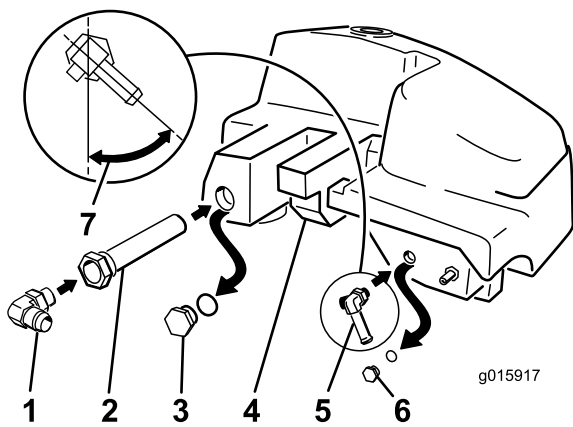

Figure 8
4. Install the small 90 degree tee with barb where the small plug was removed (Figure 8).